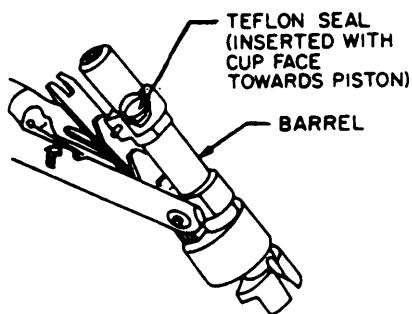

Figure 2-8.—Inspecting gasket seal.
10. Inspect the Teflon seal. Be sure that the cup side of the seal is facing the piston (fig. 2-8).